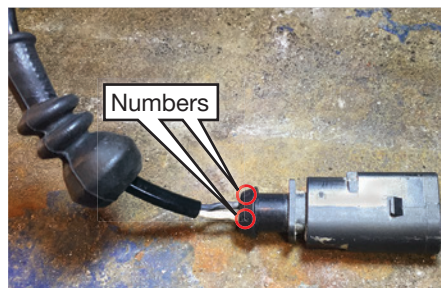

fig. D.6
- a. Pull back the boot covering the end of the connector (Fig. D.6).